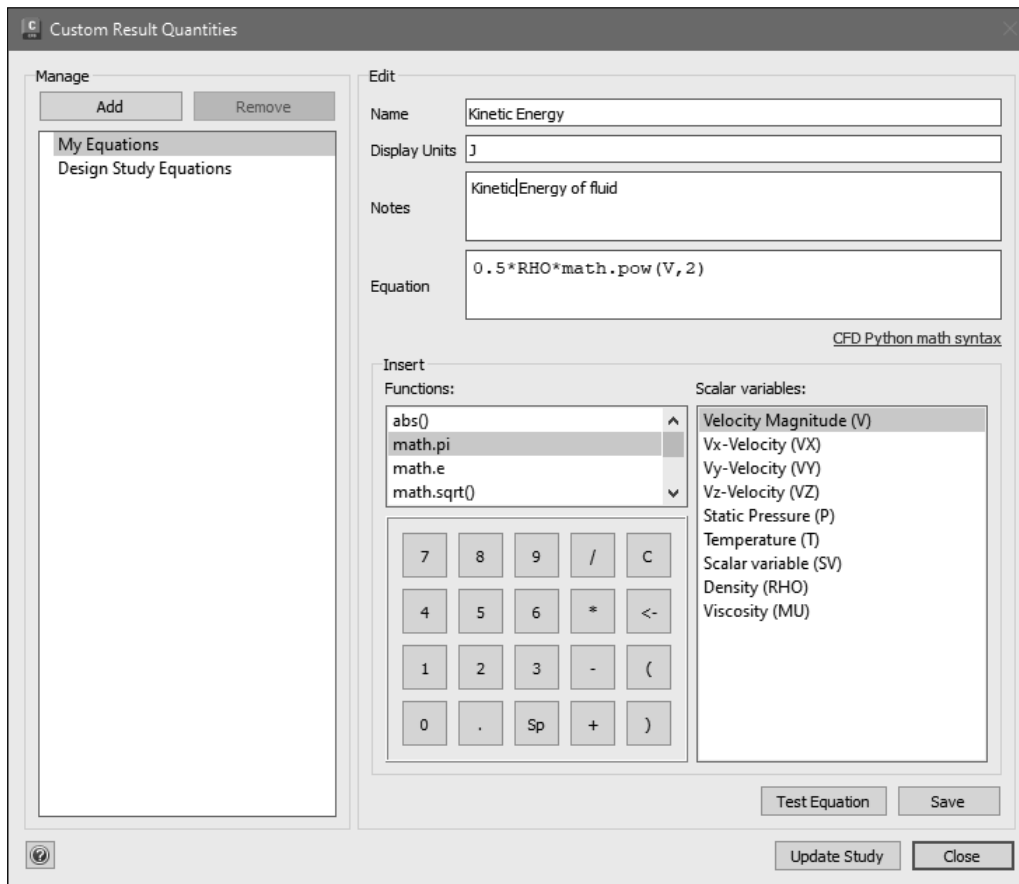

Figure-100. Added parameters for kinetic energy
- Click on **Add** button to activate parameters for creating custom quantity and specify the data as displayed in Figure-100.